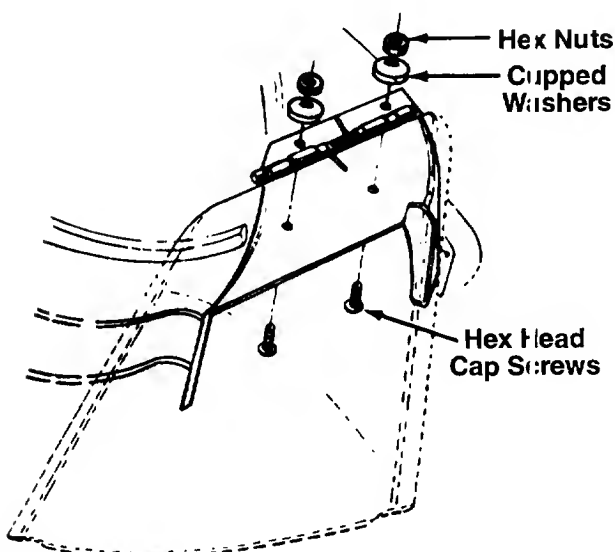

FIGURE 3.
3. Place the chute deflector in position as shown in figure 3. Secure with hardware just removed. Cupped sides of washers go against the chute deflector.